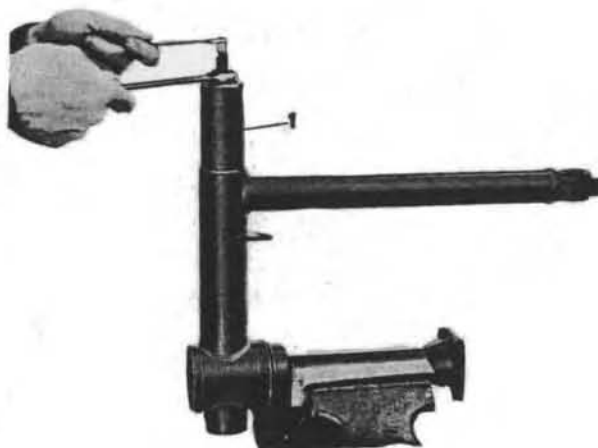

Fig. 106
- remove the two roller bearings. To pull outer races from fork, use tool No. 12904700 (see 1 on Fig. 106).